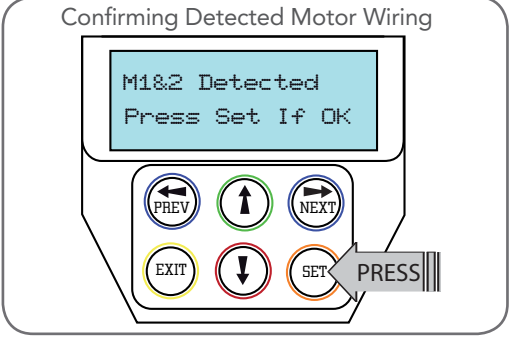

Fig 8.3
- g. DCB-05V2 will now automatically detect if one or two motor are connected. If the correct number is displayed then press SET to confirm. Otherwise press EXIT and check the wiring (**Fig. 8.3**).